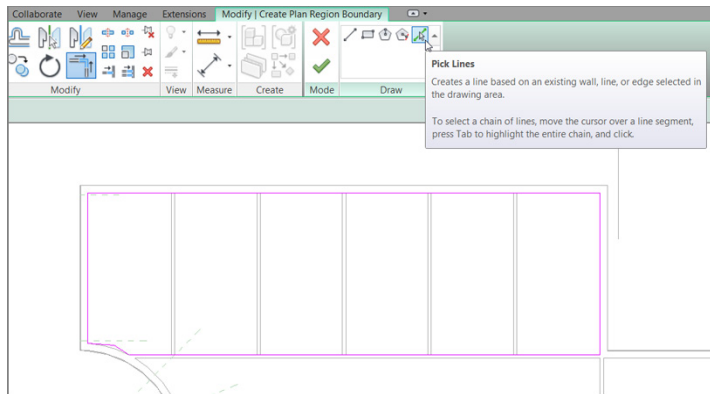

FIGURE 9.15: Defining the limits of the plan region by drawing a rectangle around a specific area
4. On the Draw panel, click the Pick Lines button, as shown at the top of Figure 9.15.
5. Pick the inside, finished face of the exterior walls around the north portion of the west wing (see Figure 9.15).
6. For the lower-left corner, draw a couple of straight lines, as shown in Figure 9.15. (Unfortunately you can't have radial perimeter lines in a plan region.)